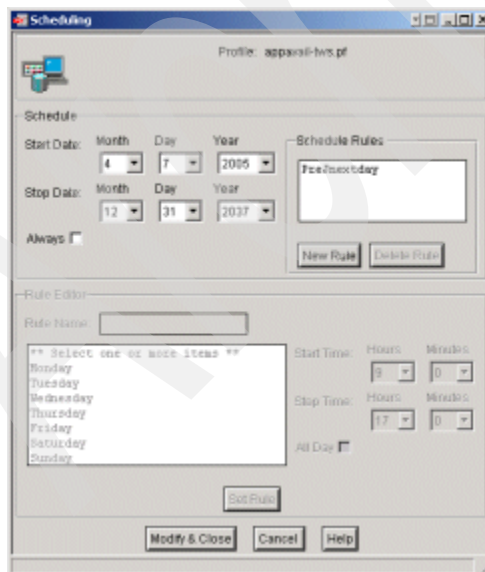

Figure 9-91 PreNextday rule added to schedule
13. Select **Set Rule**. The rule is entered into the Schedule Rules list and the Rule Editor is disabled as shown in Figure 9-91.